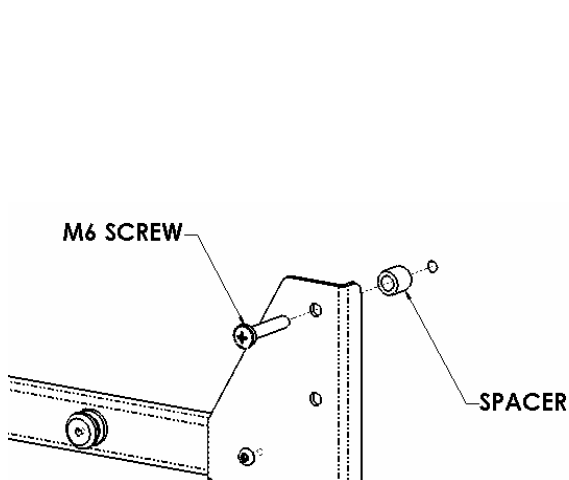
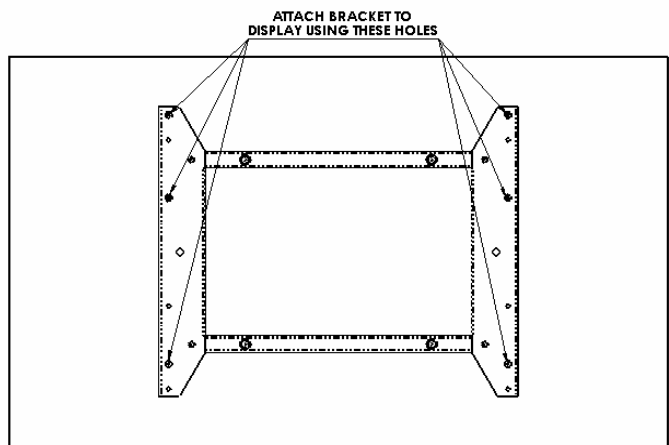

Figure 6
Figure 7
3. Place nylon spacers over mounting holes on back of screen. Attach mounting brackets to display using the M6 screws (see Figure 6 & Figure 7).